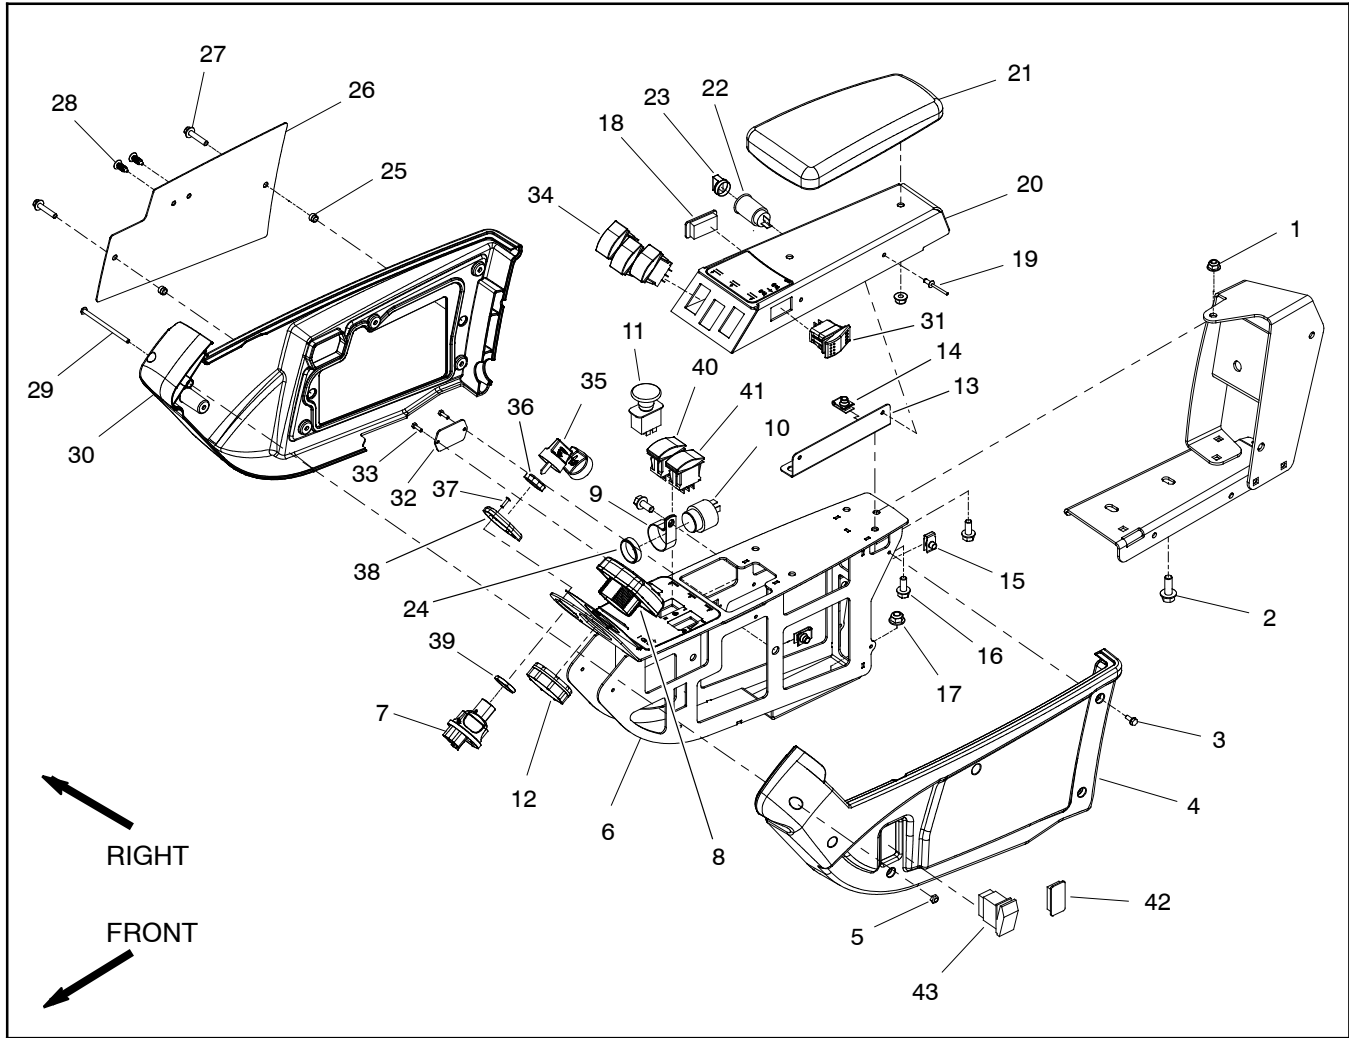

Figure 8
Disassembly (Fig. 8)
2. Remove two (2) flange head screws (item 27) and then cover plate (item 26) from outside of control arm. Locate and retrieve two (2) spacers (item 25).
3. At front of control arm, remove screw (item 29) and lock nut (item 5) that secure control arm covers to each other.
4. Remove five (5) washer head screws (item 3) that secure each cover to control arm panel.
5. Remove control arm covers from machine. As LH cover (item 4) is removed from control arm, unplug wire harness connector from headlight switch if equipped.
6. Remove electrical components from control arm as needed using Figure 8 as a guide.
7. If necessary, remove control arm panel and supports from machine using Figures 8 and 9 as guides.
Assembly (Fig. 8)
1. Install all removed electrical and control arm components using Figure 8 and 9 as guides.
2. Position covers to control arm. As LH cover (item 4) is placed, plug wire harness connector to headlight switch if equipped.
3. Secure each cover to control arm with five (5) washer head screws (item 3). Install screw (item 29) and lock nut (item 5) to secure covers at front of control arm.
4. Position cover plate and spacers to outside of control arm. Secure with two (2) flange head screws.